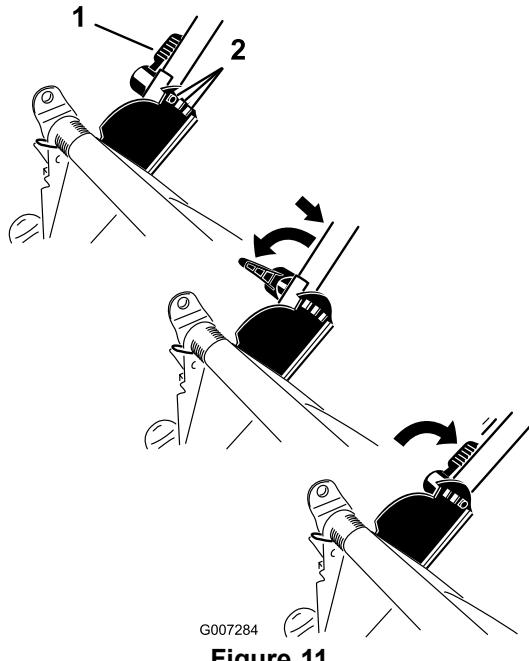

**Figure 10**
**Note:** To raise the mower, move all 4 cutting height levers forward; to lower the mower, move them all rearward (Figure 10).